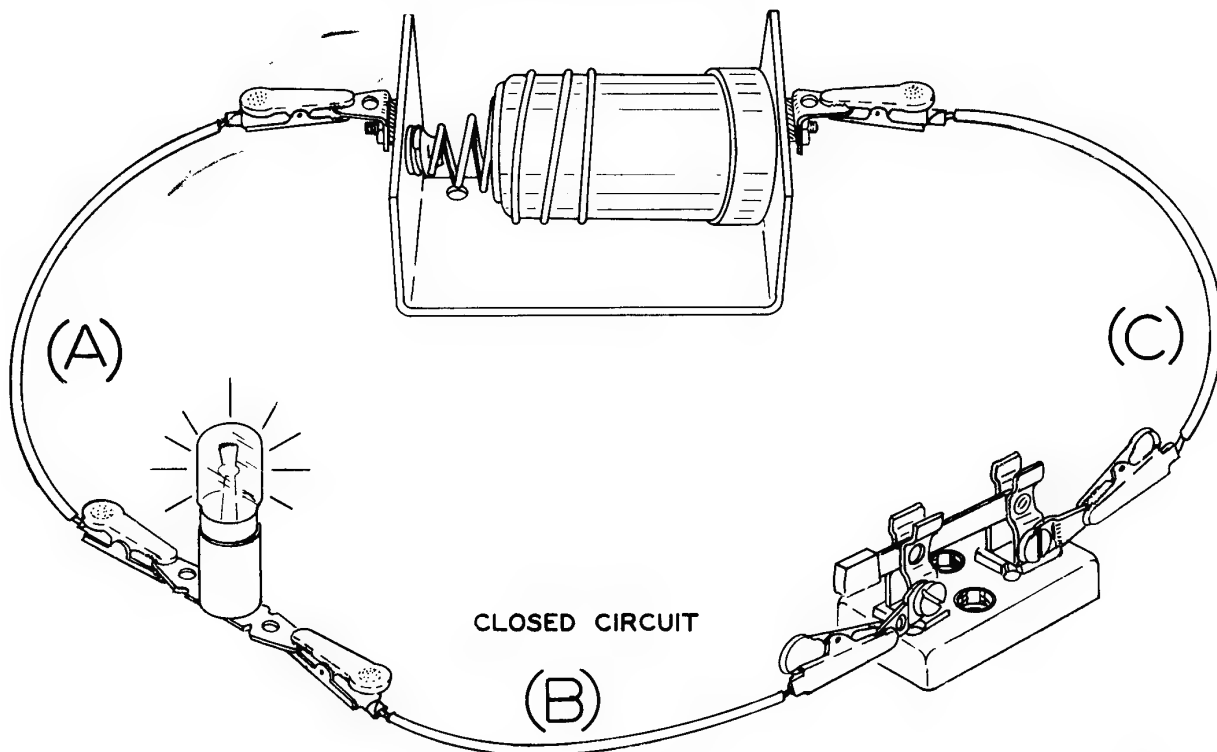

Figure 1-8B
The circuit of Figure 1-8B is a direct current series circuit because the flashlight cell delivers a continuous flow of electrons in one direction (direct current) and this flow of electrons passes through each part of the circuit in succession. In other words, the steady flow of electrons comes from the spring-connected end of the cell and flows through wire (A), then the lamp, wire (B), switch, wire (C) back into the center raised portion of the flashlight cell.